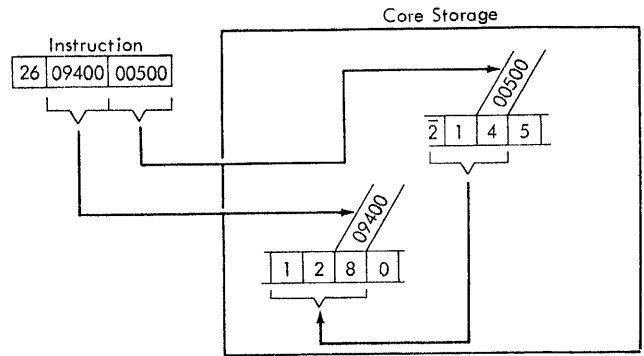

Figure 39. Transmit Field - Data Flow
In Figure 39, the data ($\bar{2}14$) in the field defined by the Q address (00500) replaces the data (128) in the field defined by the P address (09400). The data at the Q address is not changed.